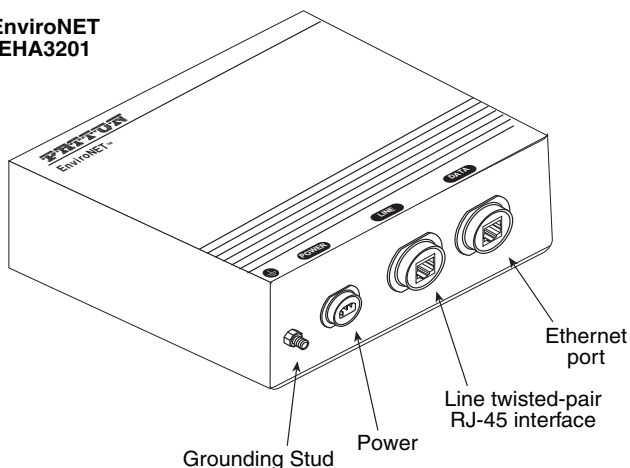

Figure 1. EHA3201 Bottom Panel
Note See figure 1 for the EHA3201 unit's bottom panel arrangements.
2. Install the grounding wire between the grounding stud (see Figure 1 on page 3) and the grounding source.